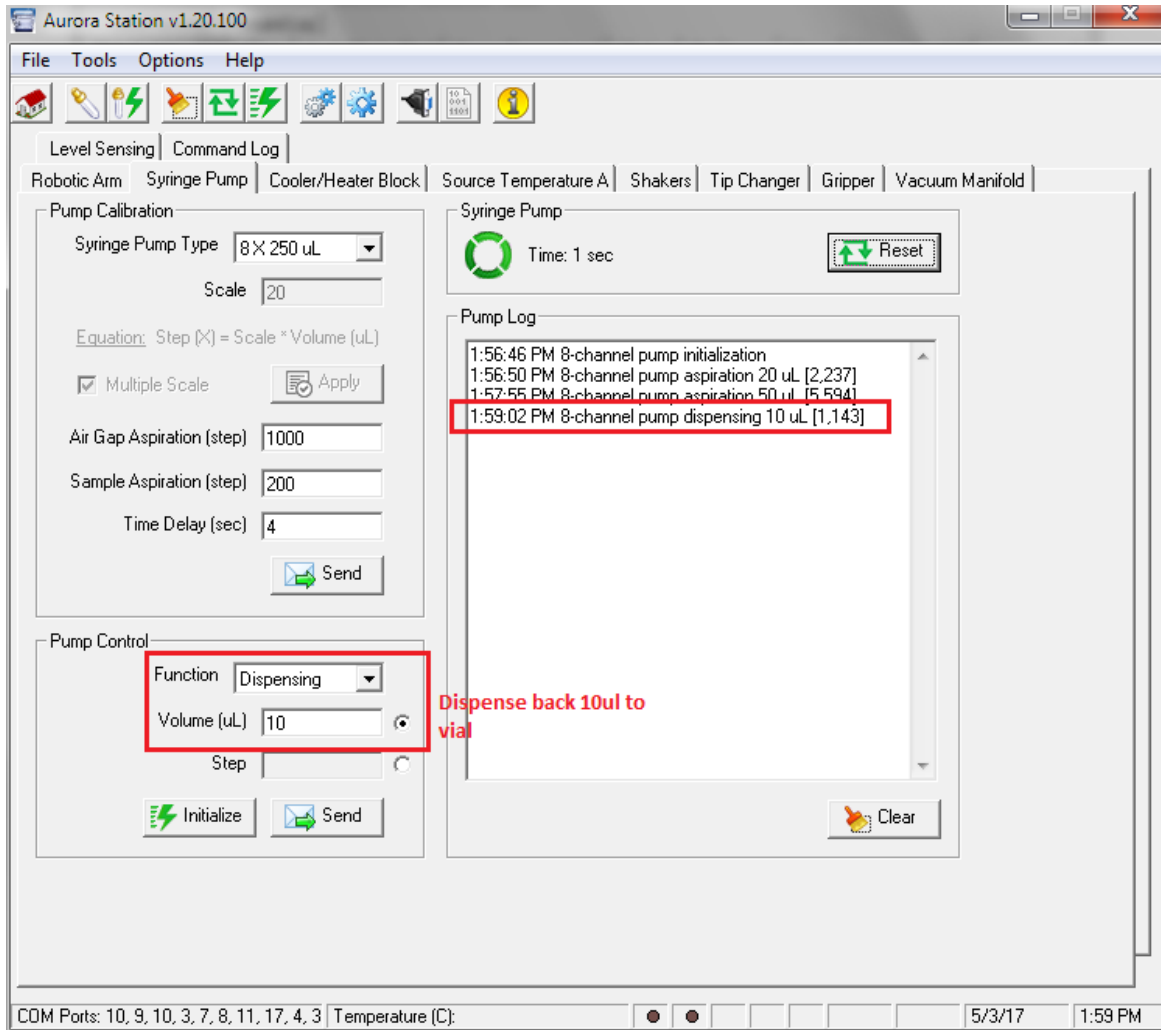

Figure 9-57 Syringe Pump –Dispense back to vial 10 μ L
9. Add 10µL & click send & dispense back to the same tube. This dispense back volume is to compensate any backlash of the system (Figure 9-57 Syringe Pump –Dispense back to vial 10µL)